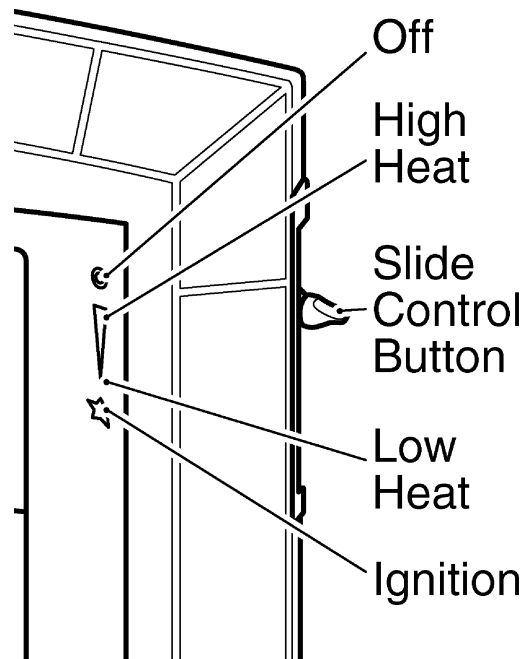

Figure 36. Control settings (Shown with ‘Dream’ fascia).
The control position markings on the fascia are shown in figure 36.
5. Gradually slide the button up to increase the burner setting. The burner should be at its maximum setting at the high heat position shown in figure 36. You should feel a check to the button movement at this position.